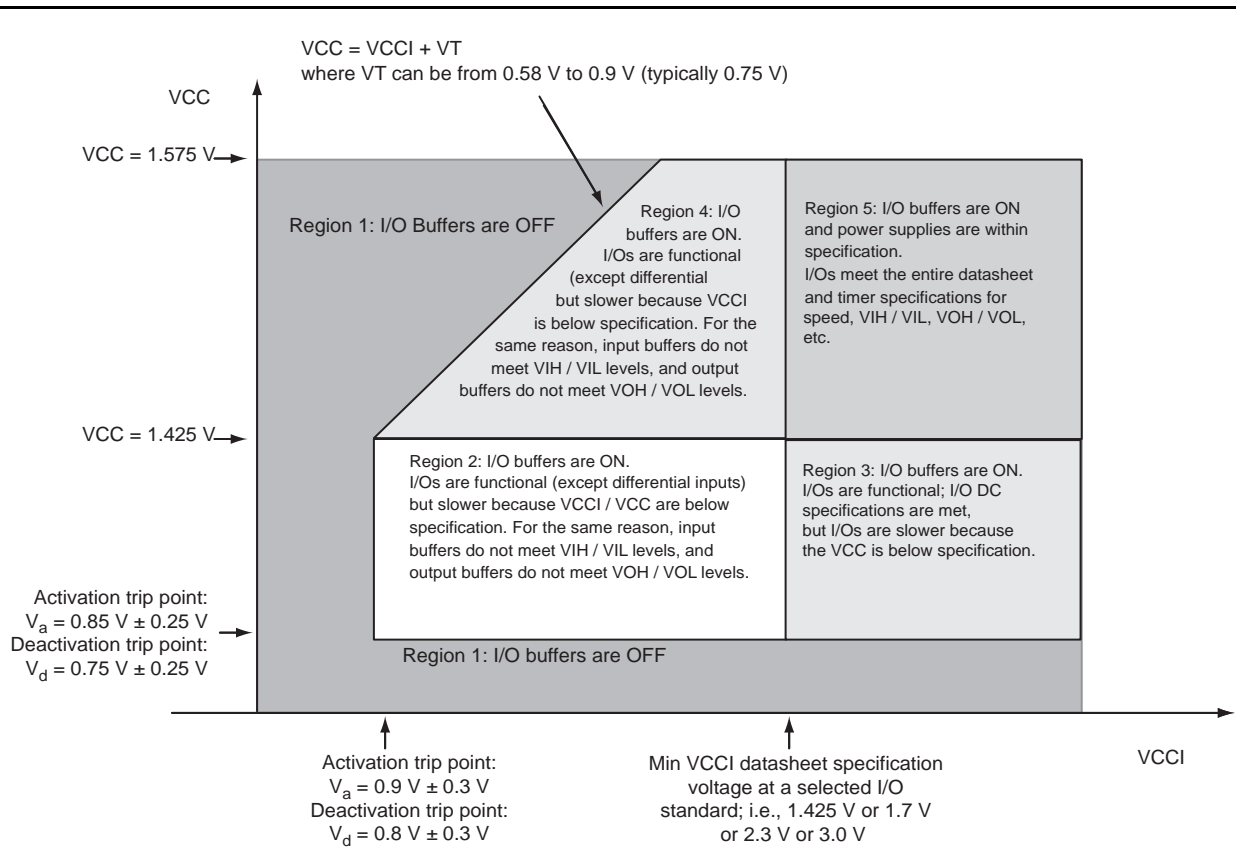

Figure 2-2 • I/O State as a Function of VCCI and VCC Voltage Levels
Sophisticated power-up management circuitry is designed into every ProASIC®3 device. These circuits ensure easy transition from the powered-off state to the powered-up state of the device. The many different supplies can power up in any sequence with minimized current spikes or surges. In addition, the I/O will be in a known state through the power-up sequence. The basic principle is shown in Figure 2-2 on page 2-4.
1. VCC and VCCI are above the minimum specified trip points (Figure 2-2 on page 2-4).